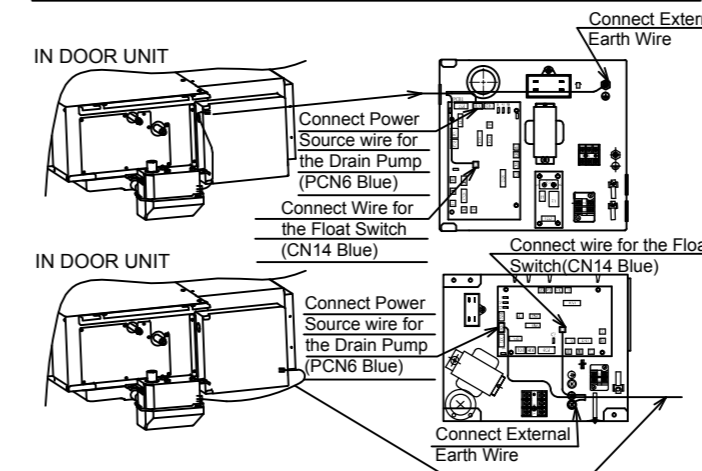

Fig. 6 Wiring Connection
- 2.3.2 The wiring connection between the external drain pump and the indoor unit is shown in Fig. 6. Firstly connect two earth wires on the metal shell of the drain pump, then connect the power source wire for the drain pump to the main PCB of the indoor unit (PCN6 Blue), connect the wire for the float switch to the main PCB (CN14 Blue), connect the external earth wire to the electrical box of the indoor unit. Connect all wires through the connecting hole and tightly secure them using the cord clamp in cabinet. Check that the earth wire is securely connected.